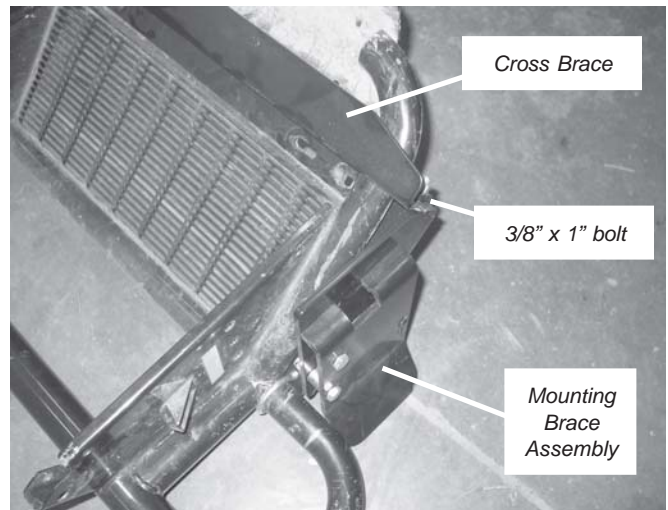

Figure 5 Install bracket and cross brace
5. It is easiest to remove the front bumper for laying out and drilling the hole pattern. Loosely install the left and right mounting bracket assemblies using the 5/16" U-bolts, flat washers, and lock nuts. Place the cross brace along the backside of the bumper and bolt to mounting bracket assemblies using 3/8" x 1" bolts and lock nuts. See Figure 5.